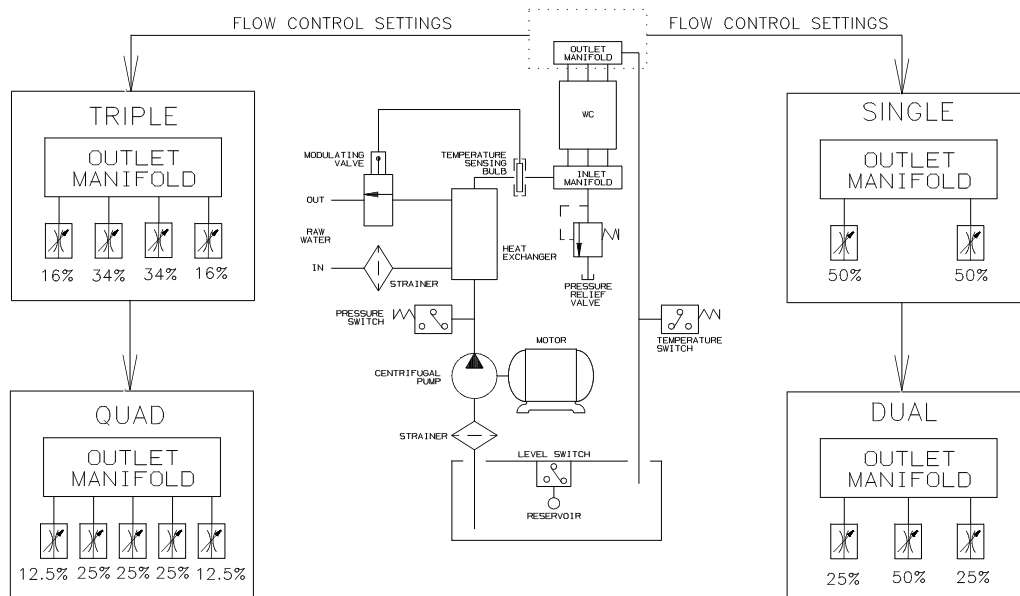

Figure 5 : : Manifold design for older style reaction plates with one inlet and one outlet
allow for equally proportional heat dissipation at each cooling cavity. See **Figure 5**.
- 2.4.8 **Figure 5** illustrates a typical closed loop liquid to liquid coolant system. The heat exchanger and temperature control would be replaced with a radiator, fan and motor in a liquid to air system.